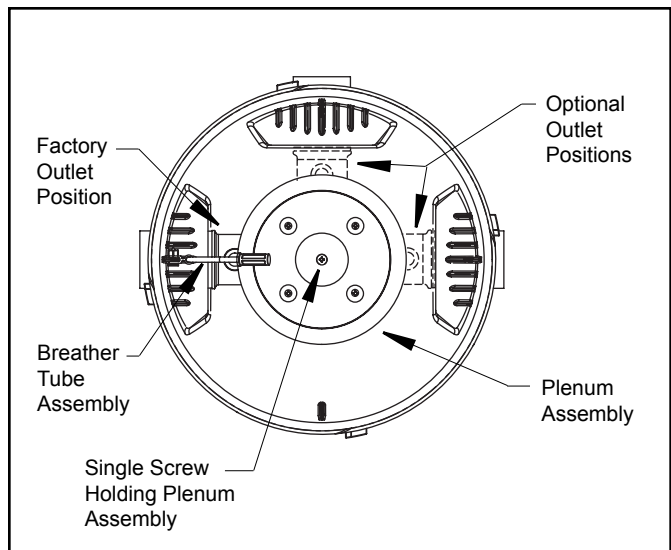

Figure 8. Changing the Outlet Port
3. Remove the single screw holding the Plenum in place. Grasp the Plenum Adapter and pull the assembly out of the tank (see Fig. 8).